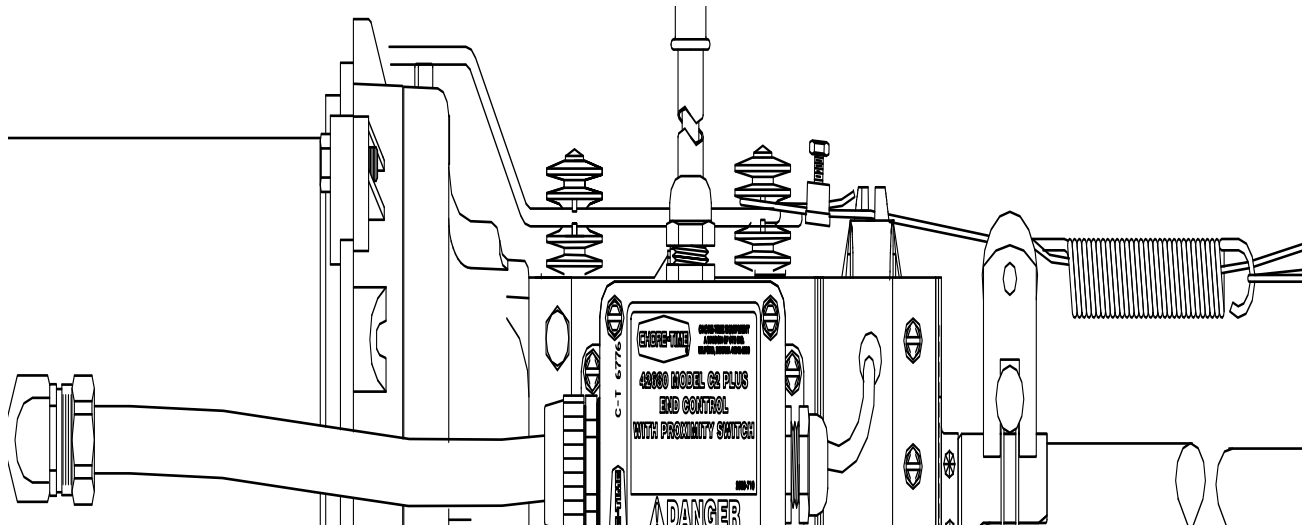

Figure 83. Anti-Roost Installation at the Control Unit
9. At the control unit, after clamping the cable to the spring, cut the cable about 8" to 10" [200 to 250 mm] longer than necessary. Feed the end of the cable through the center of the spring, around the first insulator on the control unit, and clamp the cable using the cable clamp supplied with the control unit. See **Figure 83**.
10. Install the wire form on the control unit insulators. Be sure the guard snaps into the retainers molded into the insulators. See **Figure 83**.